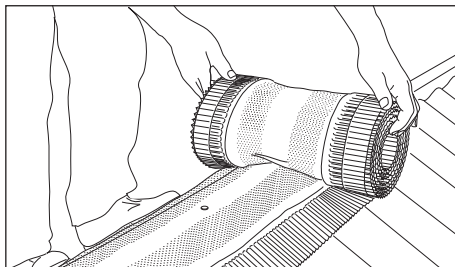

Fig. 4
- 4 Unroll RidgeFast roll centrally along entire length of ridge batten and fix at approximately 2 metre centres to ridge batten using felt nails. Overlap roll ends by 100mm at each joint. At gable ends, roll should be able to lap over the edge of gable tile/verge finish by approximately 50mm (where a bedded verge is used it should be cut back by 50mm) (Fig. 4).